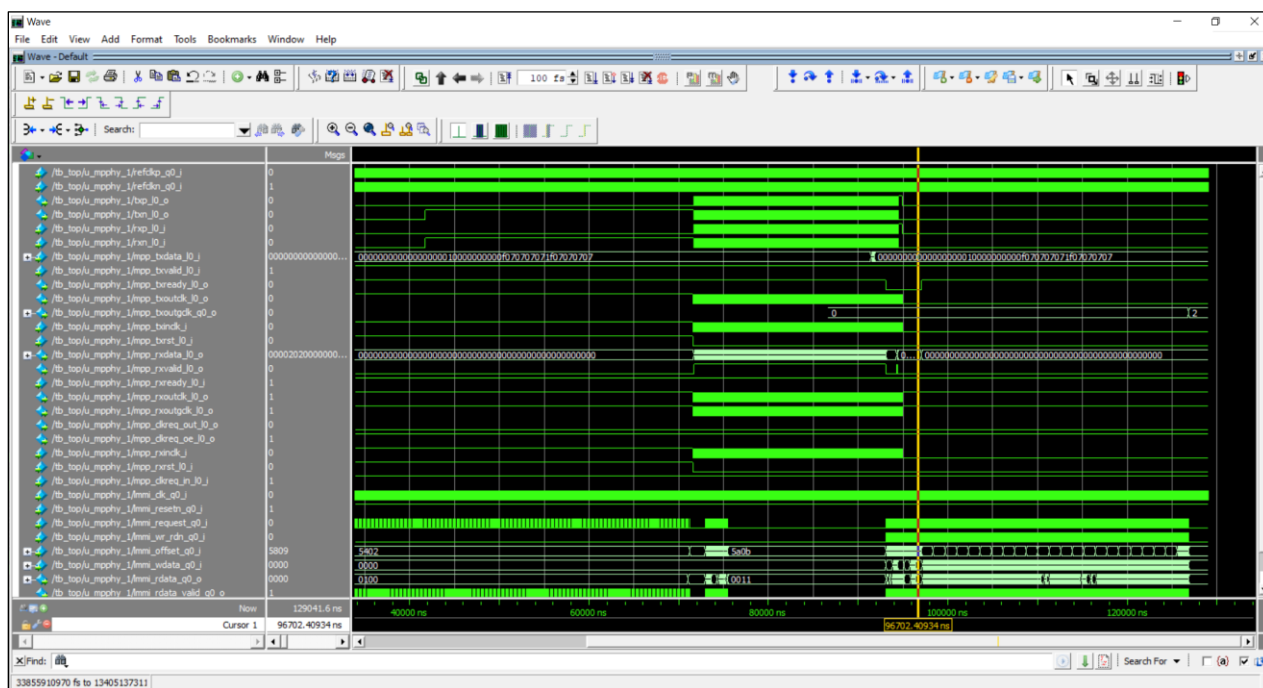

Figure 7.8. Simulation Waveform
- Click **Finish** to run the simulation. The waveform in Figure 7.8 shows an example simulation result.